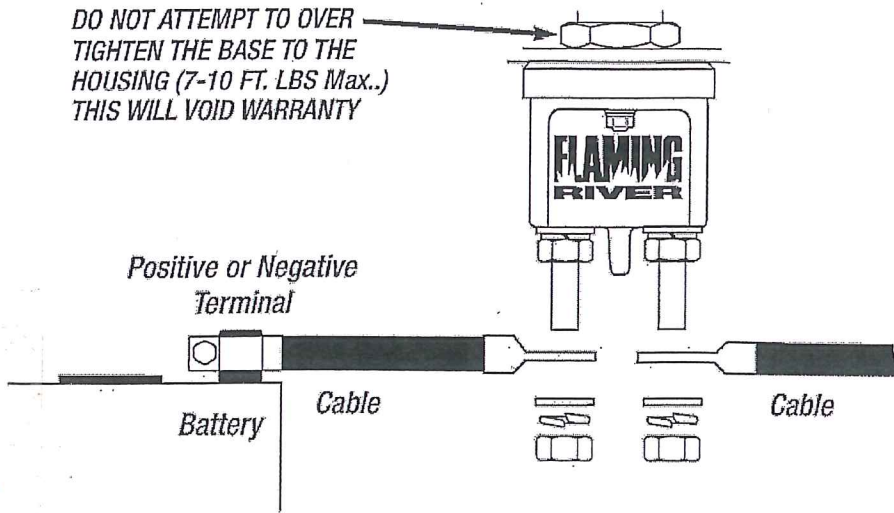

Figure 3
2. It may be necessary to discard this cable and replace it with two (2) separate cables. The length of these cables will equal the length to the switch as shown in Figure 3.
3. Attach the two (2) cable ends to the terminal studs as shown in the illustration in Figure 3. Tighten the hex nuts until the lock washers flatten (7-10 ft. lbs.) **Do Not Over Tighten!** Make sure the cables on the switch are not touching. Terminal covers are recommended.